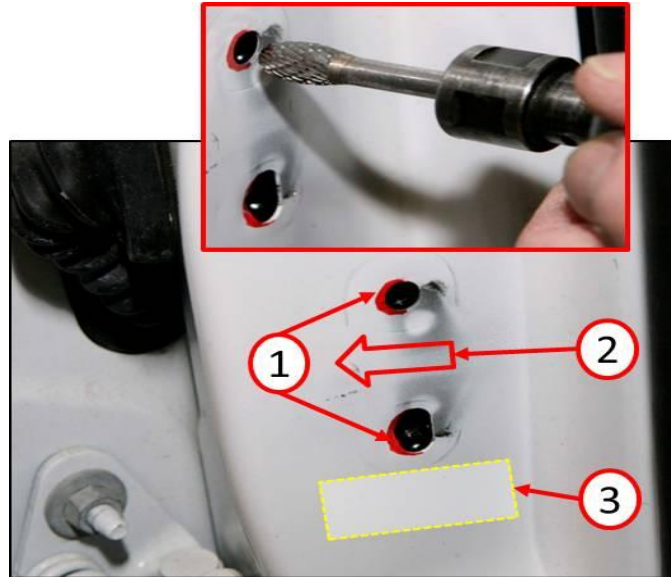

Fig. 5 Modify Locating Holes
8. Using a rotary file or equivalent, remove a maximum of 3mm(1/8") of the outboard side of the striker locating holes (1) to allow the striker to be adjusted properly and achieve a more outboard location (Fig. 5).